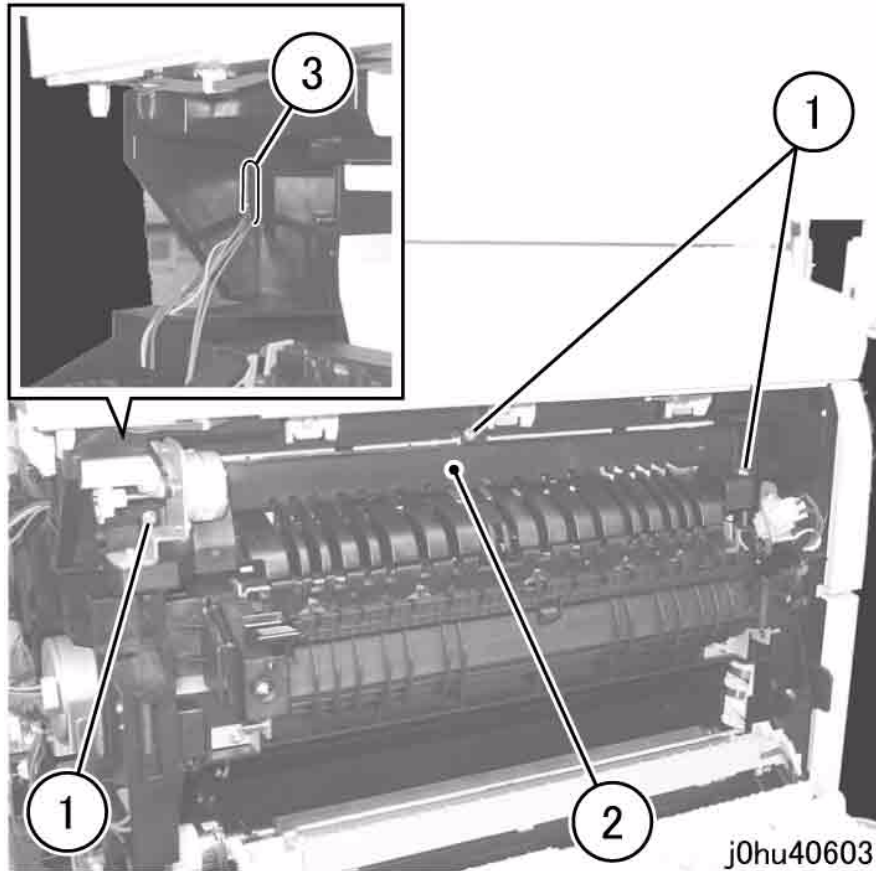

Figure 4 Remove Exit Transport
6. Remove the Exit Transport (Figure 4).